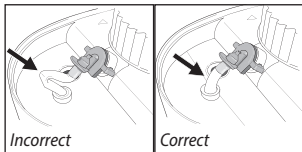

Fig. 6
9. Check to make sure the nozzle and suction tube are in place and that the suction tube is not bent, Fig. 6. Reattach the top cover to the body of the unit.